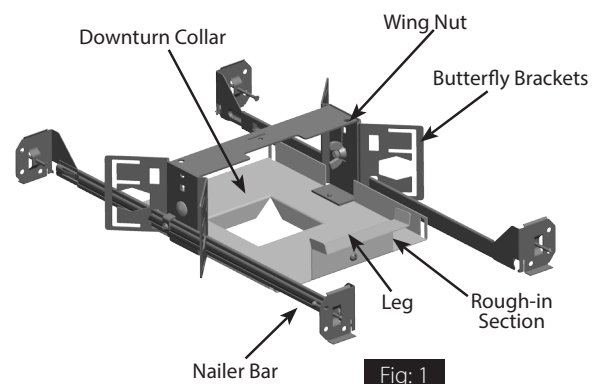

Fig: 1
3. The fixture can be adjusted from 1/2" to 1" max ceiling thickness. For height adjustment, loosen the **Wing Nut** and slide the **Butterfly Bracket**. If necessary remove the **Wing Nut** and insert in screw in different hole provided on the **Butterfly Bracket** (*Fig. 1*).